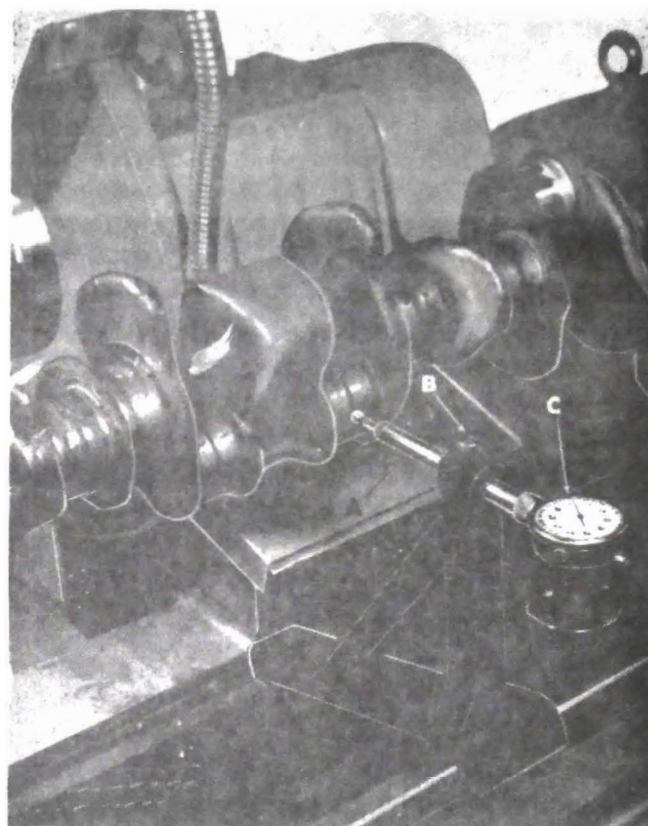

Figure 10—Trueing Fixture
508—TRUEING FIXTURE (Fig. 10)
The indicator (C, Fig. 10) is shipped in a separate box to prevent damage. Assemble as follows: Remove the tape from the trueing fixture shank and remove the small brass plug from the tape. Place the indicator into the hole at the knurled end of the shank. Remove the small set screw at the knurled diameter and place the brass plug in the tapped hole. Replace the set-screw and position the indicator so that its needle moves only a few marks and tighten the set-screw. The trueing fixture is now ready for use.
The shank (A, Fig. 10) is adjustable to any position when the thumb screw (B) is loosened. The trueing fixture base is machined to fit the contour of the front table and is so balanced that it requires no clamping. Always be sure that the fixture fits securely against the front table for accurate readings. Protect the indicator from damage.